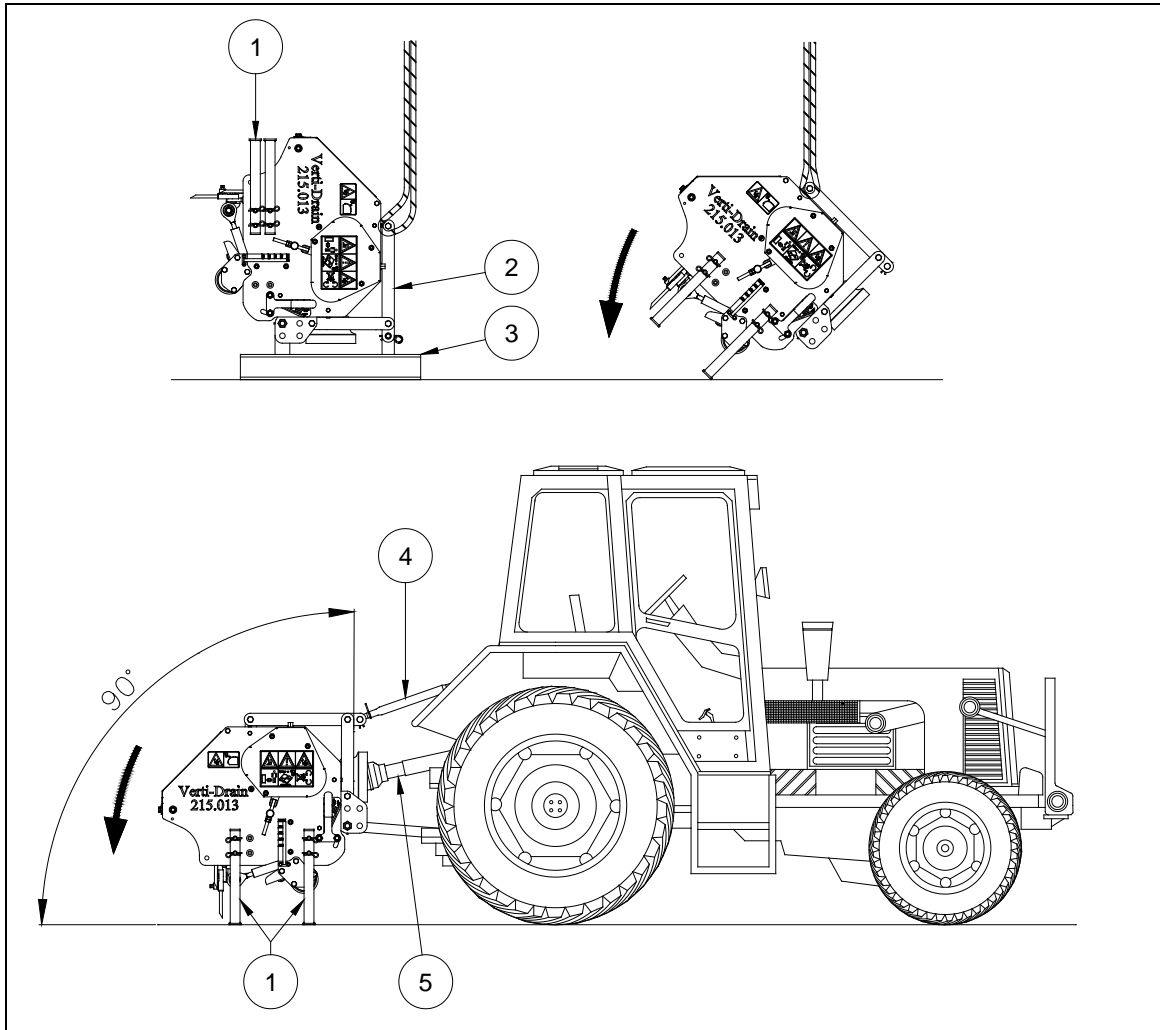
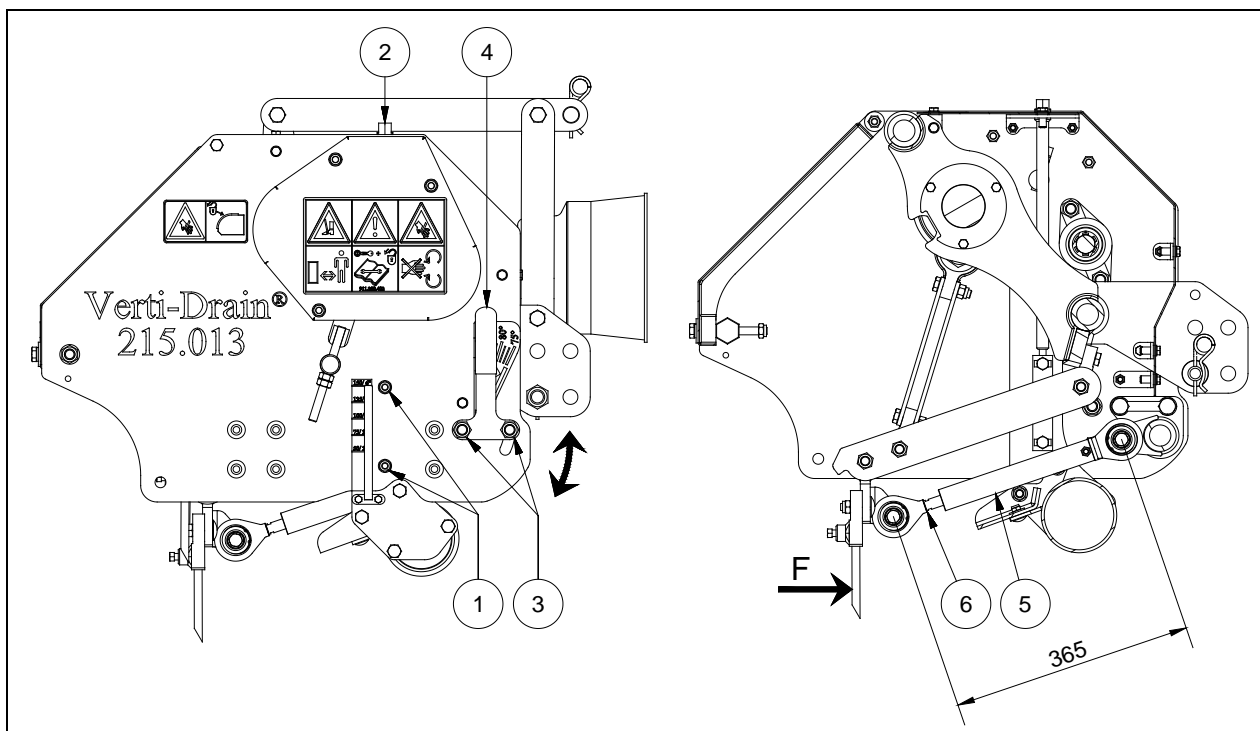

Fig. 8
Fig. 10
The machine is positioned vertically on the pallet. To remove the pallet and position the machine horizontally on the floor, act as follows (see fig. 8):
The working depth can be adjusted if the machine is raised (before start of operation) or during processing of the ground when the machine is operating. To adjust working depth (see fig. 10):
All tines can be adjusted at the same time in order to increase or decrease the tine angle. To adjust the tine angle (see fig. 10):
☞ At 90 degrees the tines only go dead straight into the ground if the machine is correctly installed, see fig. 8. If this is not done correctly a force F, see fig. 10, may result, which damages the machine.
-  If the Verti-Drain[®] is not correctly mounted behind the tractor, see fig.8, different PTO angles can cause vibrations in the messenger bar of the machine. These vibrations can damage both the machine and the holes in the ground.